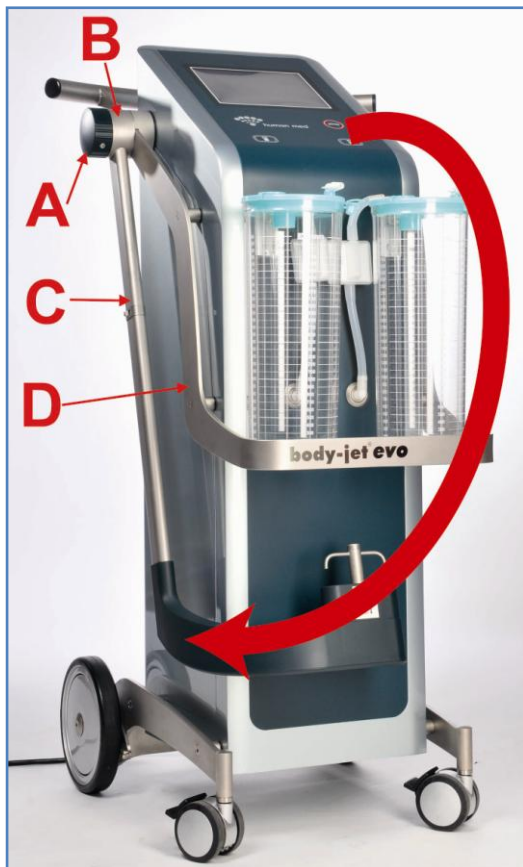

Fig. 4-4: Bring the rack into transport position
Pull the swivel (B) completely out and move the arm clockwise into the folded-down position (Fig. 4-4). At its mechanical stop the swivel will then lock into transport position by spring pressure.